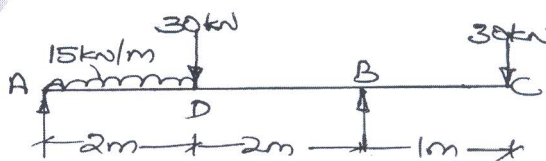

Fig.Q3(c)
c. Draw SFD and BMD for a beam shown in Fig.Q3(c). Locate the point of contraflexure and maximum bending moment.